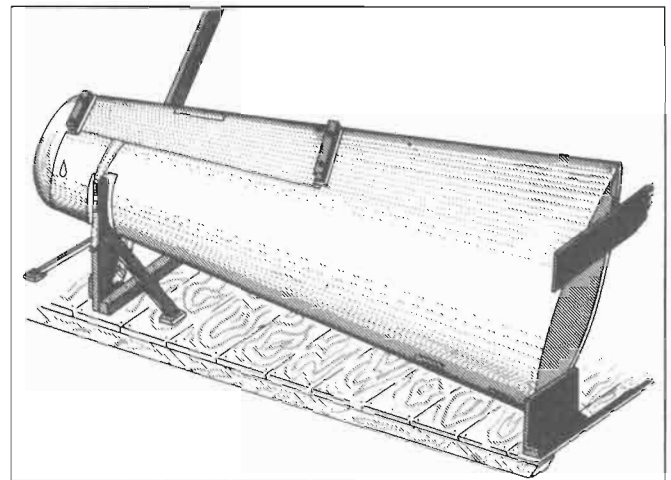

Figure 15 — Outer Wing Panel in Cradle
- the wing toward the fuselage, wing tip forward and leading edge down. (See figure 15.) Use same procedure for right wing.